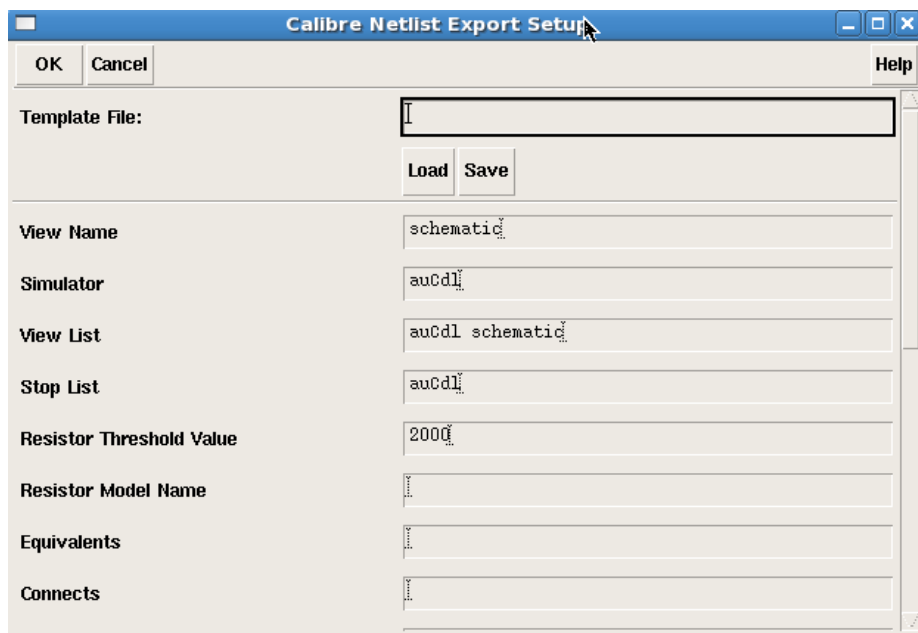

fig. 30
1. If the “source_added” file (empty sub-circuit file) is provided along with the LVS deck, you have to specify this file as an include file for netlist export by click “Calibre->Setup->Netlist Export...” (fig 30).